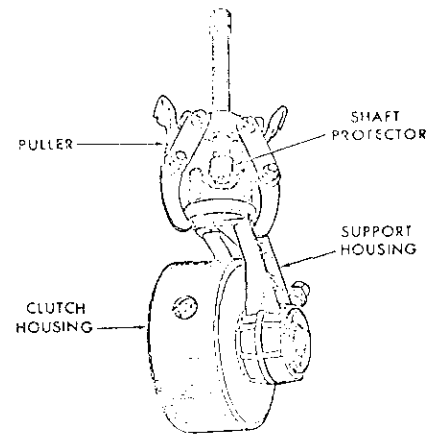

Fig. 357A—Use puller attached as shown to remove and install brake piston in one-piece support. Refer to text.
On models with production date of March 1969 and later, remove brake assembly from support before removing support from clutch housing hub as follows: Attach a puller as shown in Fig. 357A, push washer (29) inward far enough to remove snap ring (30), then release spring pressure and remove washer and springs (28 and 28A). Pull support (17A) from clutch housing hub, then remove brake piston (25) from support and remove "O" rings (26 and 27) from piston. Remove pin (24) and brake arm (22) from housing.
On models production date March 1969 and later, install brake arm (22) and pin (24) in support (17A), then install support over rings on clutch housing hub with oil port on top side. Install new sealing rings on brake piston, lubricate the rings and insert piston into support. Install brake springs and washer, attach puller (Fig. 357A), compress springs and install snapping.